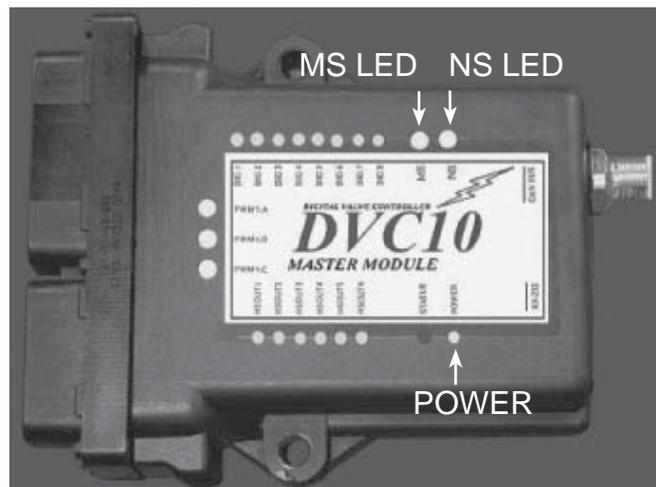

Figure 3 - DVC10 Module
4. DVC10 system (see Figure 3) is connected under the baler control panel. The DVC10 system is the master controller for the hydraulic system. This DVC10 system should be adjusted by your local Freeman dealer only. There are LED indicator lights on the DVC10 system for trouble shooting (see page 7). Flashing NS or MS LEDs on DVC10 modules indicates service issues. Your dealer service department may be able to determine if there is a service issue just by letting them know which lights are flashing. The most common problems are communication settings.